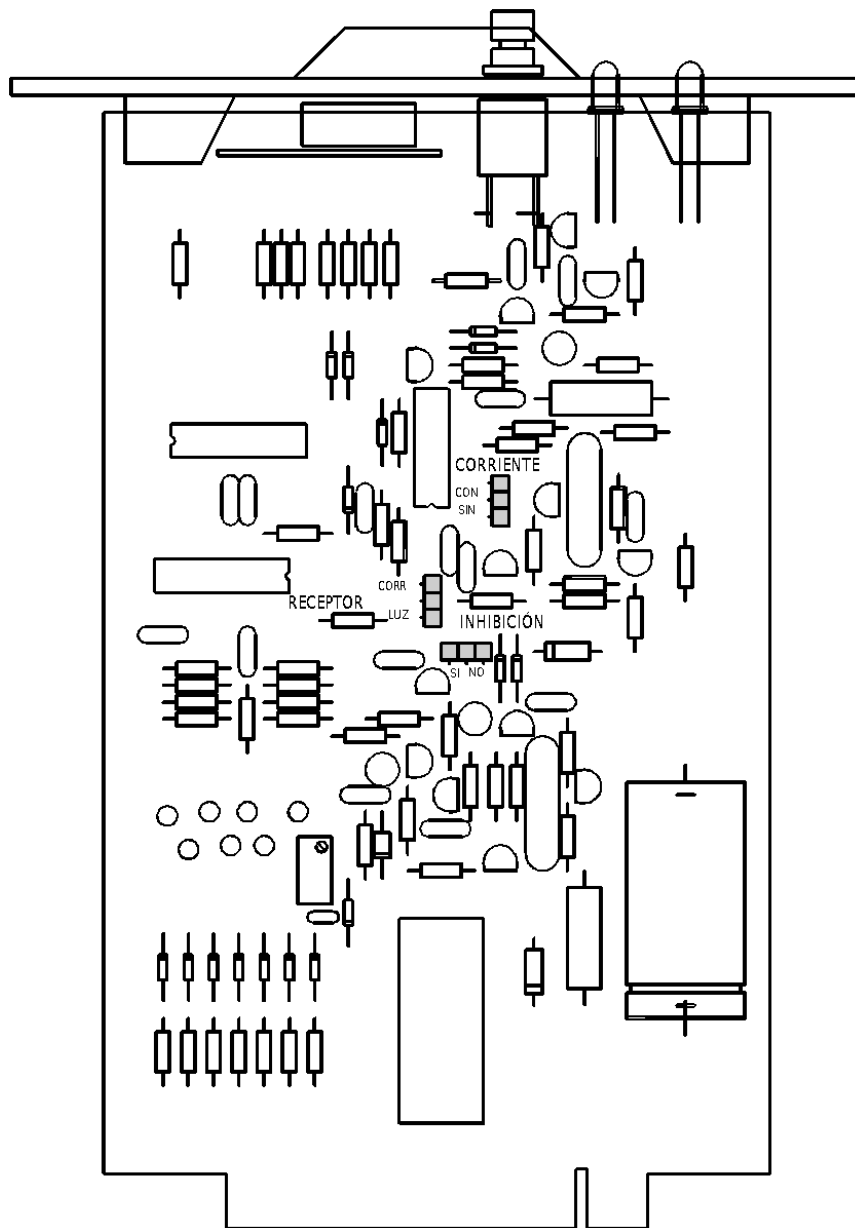

Fig. 5
If the current (CORRIENTE) jumper is in the CON position in the logic board (See fig. 5), an overcurrent is needed to produce trip signals. However, the display will indicate the number of the last activated receptor, regardless if it has not tripped, until the push button (switch) is RESET.
The numbers 43, 44 or 45 inputs can be preset with the RECEPTOR jumper to work as a light arc input when in the light (LUZ) position, or as overcurrent information input in the current (CORRIENTE) position (See fig. 5).
The eighth light input, #42, is very important since allows for certain selectivity in the electronic logic response by a third jumper called inhibition (INHIBICIÓN) (See fig. 5). When this jumper is on the NO position, #42 input functions like the other 7 previous inputs. When it is in the yes (SI) position, is inhibited to retransmit to #33 transmitter the light entering through the #42 receptor.